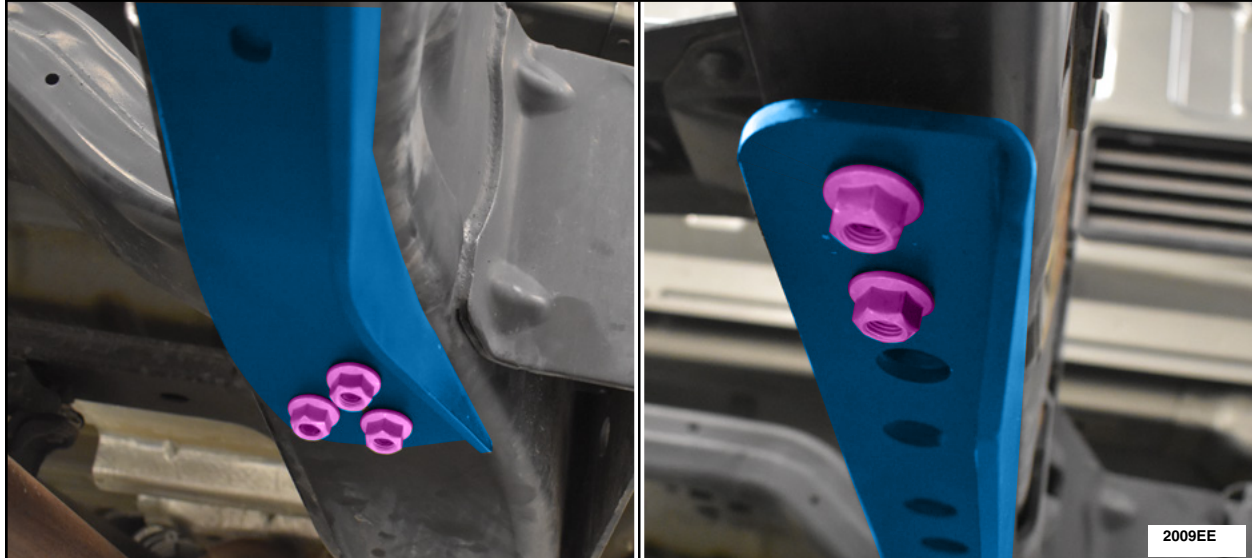

FIGURE 27
9. Tighten the lower brackets front three (3) nuts and the rear two (2) nuts for Non-60CA or the one (1) nut for 6CA. See Figure 27.